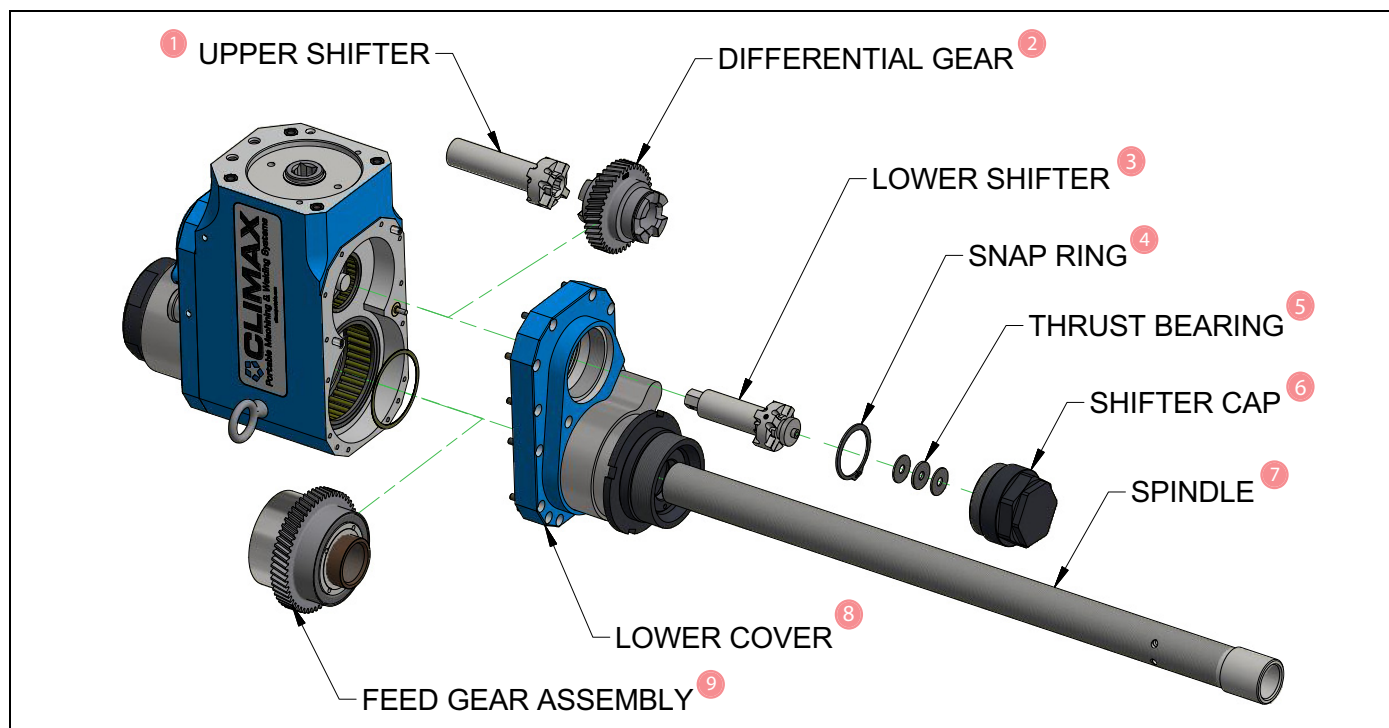
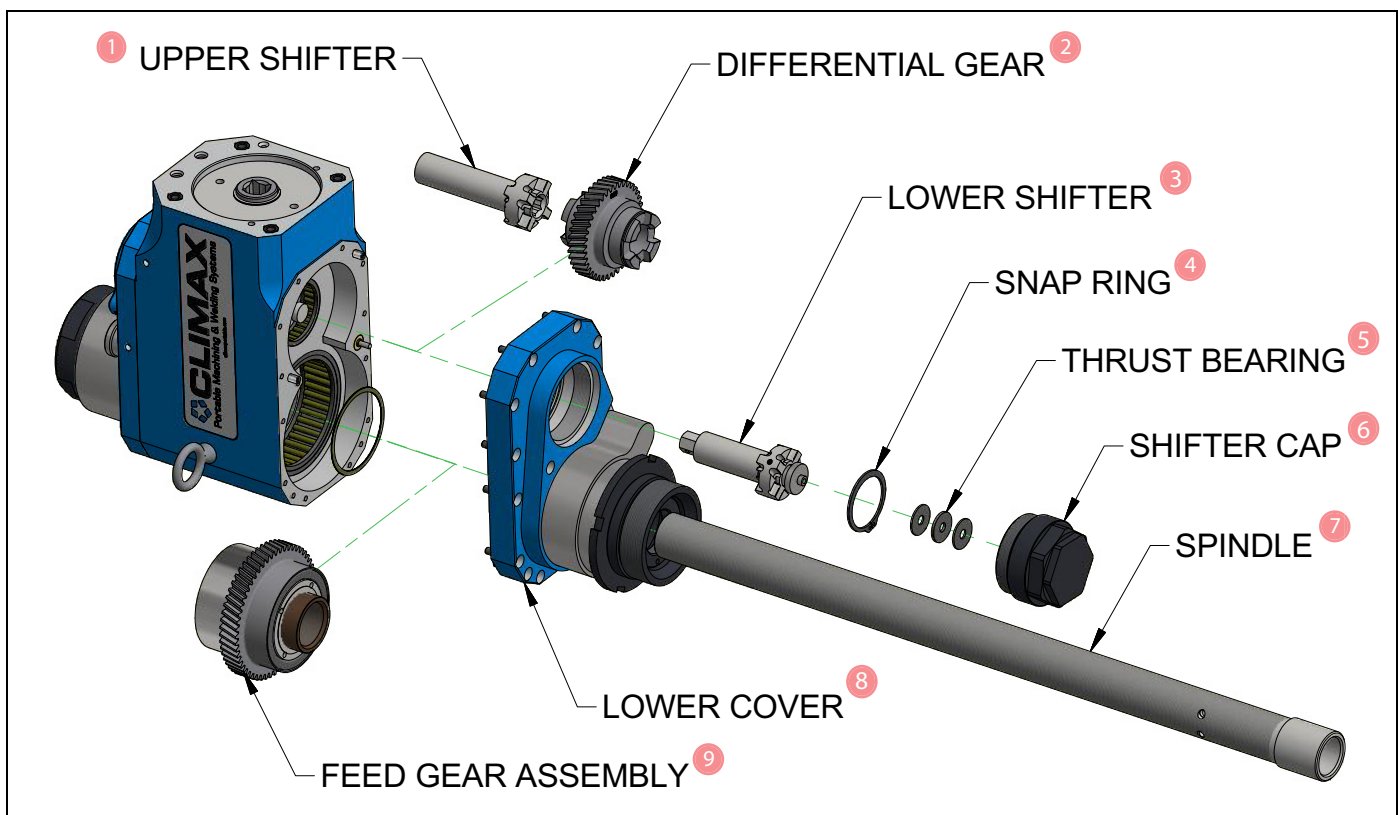

FIGURE 5-4. GEARBOX ASSEMBLY
FIGURE 5-6. GEARBOX REASSEMBLY
2. Separate the lower housing cover and spindle from the gearbox until the upper end of the spindle is free of the main gearbox. (Figure 5-4).
3. You now have access to the differential gear set and the spindle (Figure 5-4). To replace the differential gear set, refer to Section 5.5.3 through Section 5.5.7. To replace the spindle, refer to Section 5.5.8.
Refer to Figure 5-4 or Figure 5-6 while you do the tasks in Sections 5.5.3 through 5.5.8.
Refer to Figure 5-4 while you do the following: